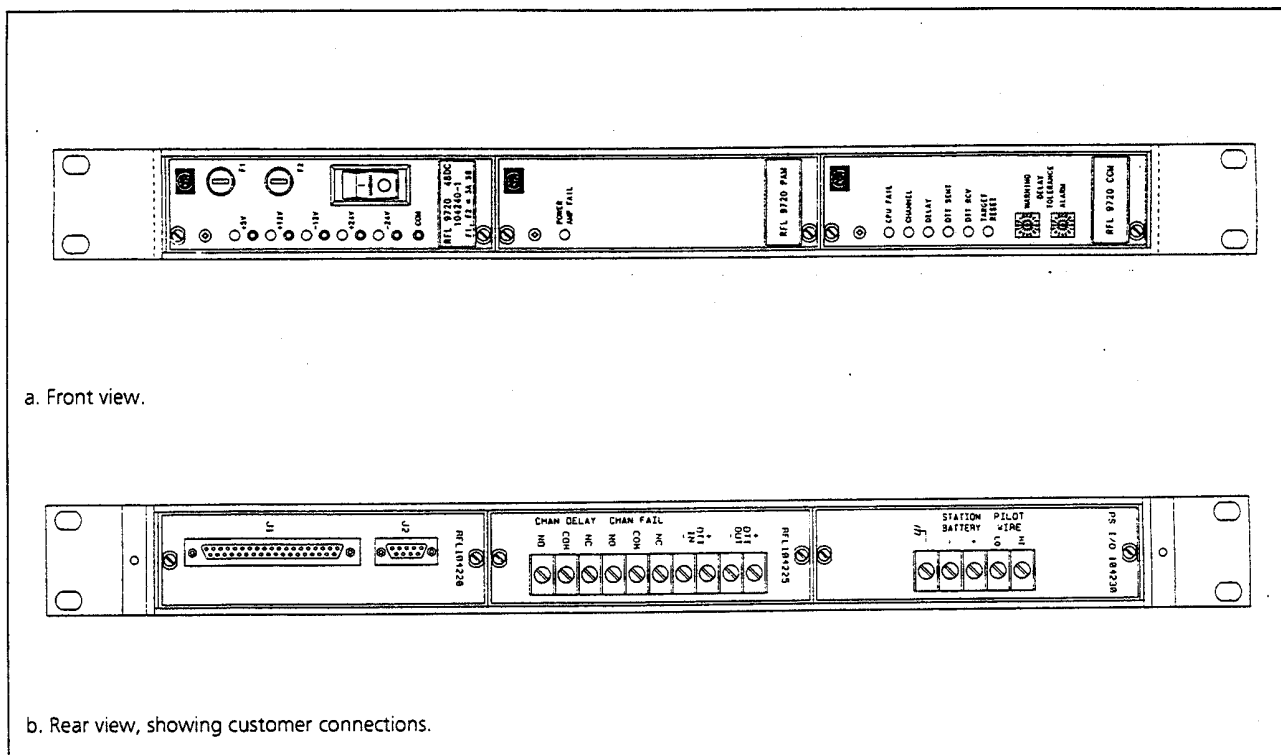

Figure 2. RFL 9720 unit mounted in a flat-pack chassis
Each RFL 9720 unit consists of three main circuit board modules: the Communications And Control Module (CCM), the Power Amplifier Module (PAM), and the Power Module (PM). Connections to each module are made through I/O modules, which are mounted at the rear of the chassis. The RFL 9720's modular construction allows for a variety of packaging arrangements. For example, a single RFL 9720 unit can be mounted in a flat-pack chassis that is one rack-unit high (1.75 inches, or 4.45 cm), as shown in Figure 2. It can also be mounted in panel-mount chassis that is 5.25 inches high and 6.4 inches wide (13.34 cm x 16.25 cm), as shown in Figure 3. Up to four RFL 9720 units can be mounted in a rack-mount 3U chassis (5.25 inches, or 13.34 cm), as shown in Figure 4.